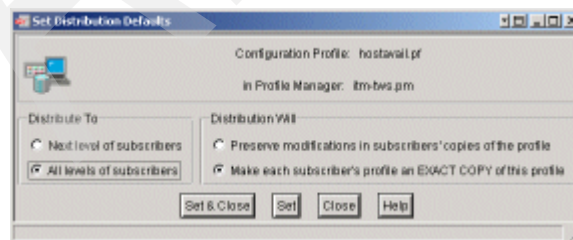

Figure 9-77 Setting distribution defaults for hostavail.pf profile
11. In the **Distribute To** group, select All levels of subscribers. In the Distribution Will group, select Make each subscriber's profile an EXACT COPY of this profile, as shown in Figure 9-77.